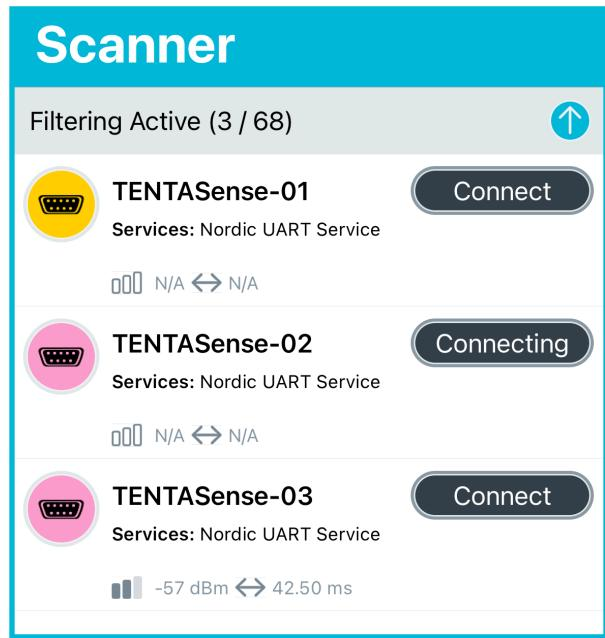

Figure 4: nRF Connect scanner screen.
3. Connect to the TENTASense using a bluetooth serial app: nRF Connect (Figure 4) works well, and is available for Windows, iOS and Android. Look for the **TENTASense-{XX}(-F)** device, where {XX} is a number between 01 and 12 that matches the number written on the back of the microcontroller. The **-F** suffix in the name indicates a flexible sensor board.